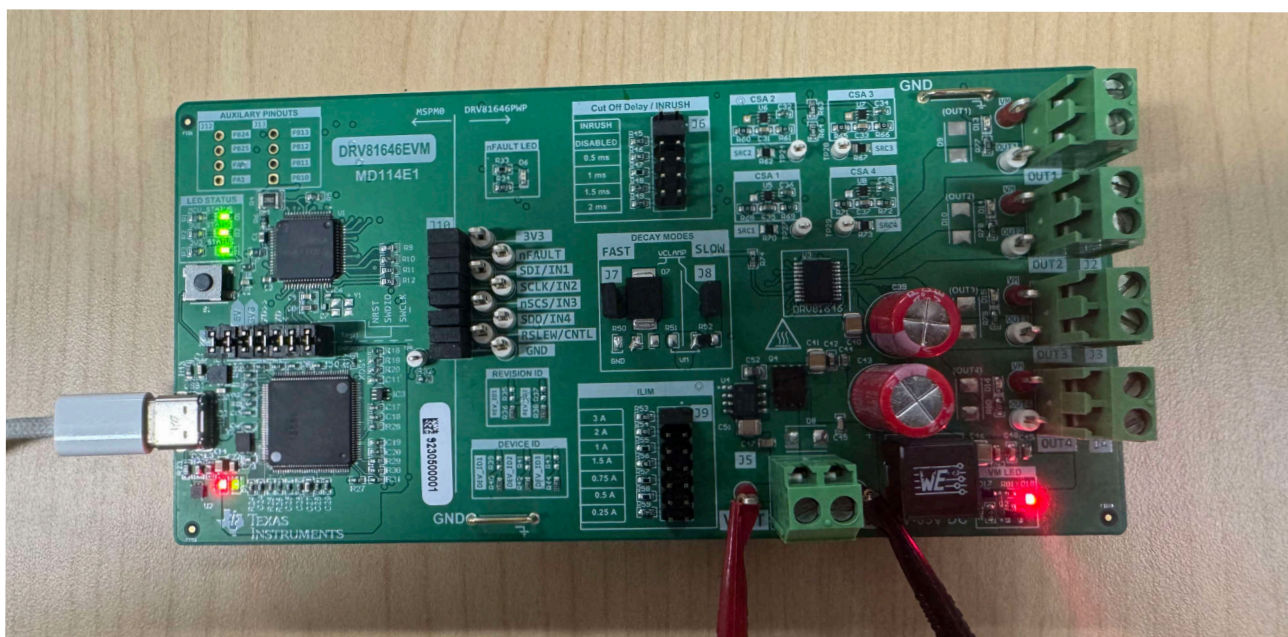

Figure 2-6. Hardware Setup
3. Turn ON power supply. LED D18 (VM) turns ON. See Figure 2-6 for setup image. The EVM is designed with built-in reverse polarity protection to prevent damage from incorrect power supply connections. If the LED D18 indicator fails to illuminate, maintain that the power supply polarity connection is correctly configured.
5. Set up is now complete. See Figure 2-6 for setup image.